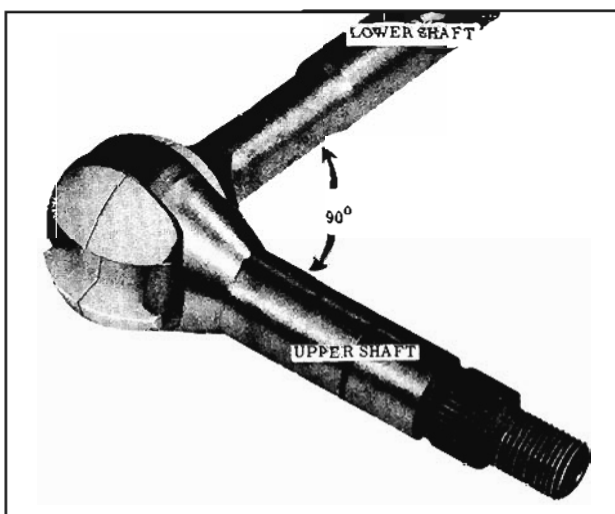

Fig. 8-109 Installing Sphere and Upper Shaft
2. Turn the sphere so the lower shaft can be installed over the flat area of the sphere (Fig. 8-109) approximately 90° from center line of lower shaft, then, install lower shaft socket over the sphere and straighten the shaft.